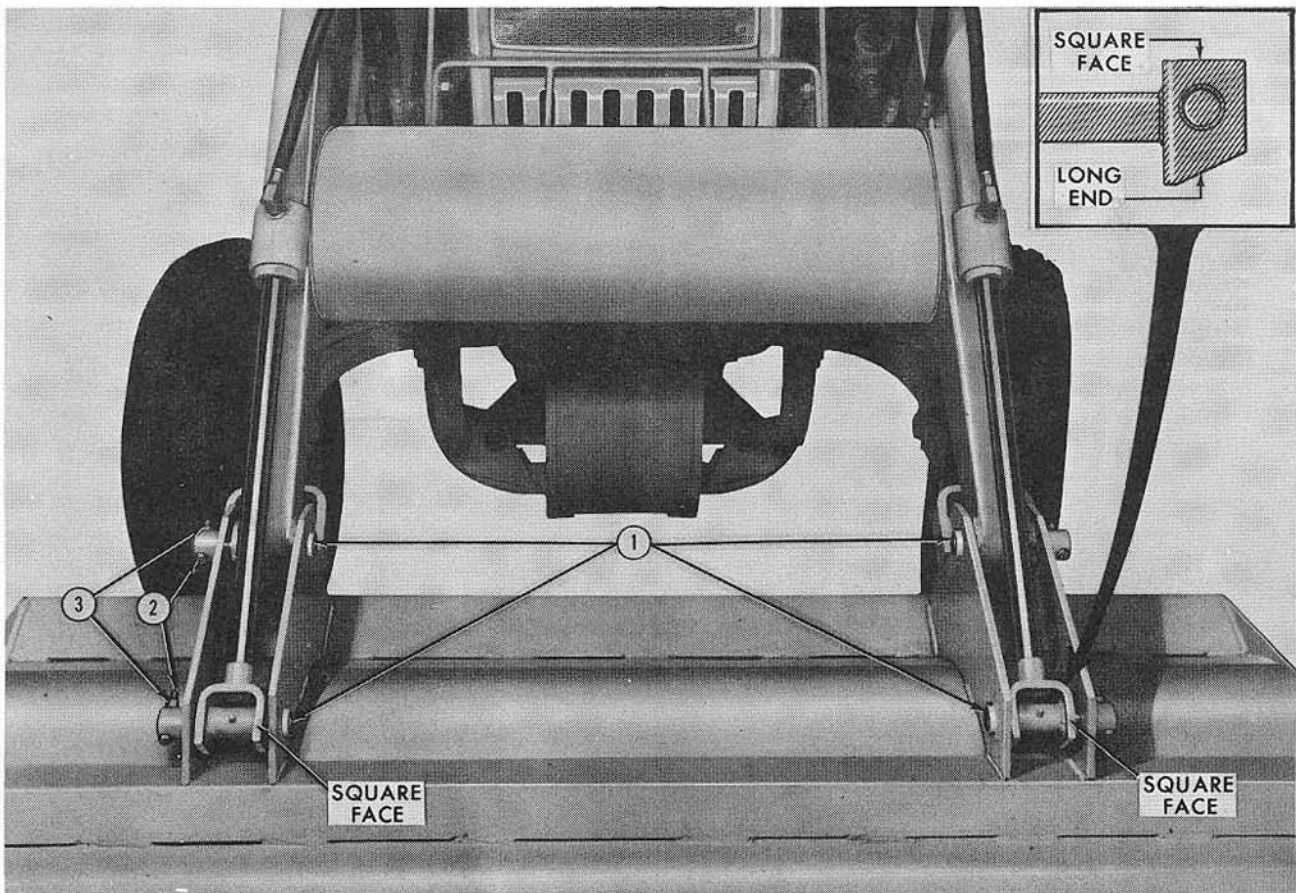

Figure 3
2. Position the bucket cylinder rods so the square face of the rod end is in the up position, as shown in Figure 3. The longer portion of the cylinder rod end is a bucket stop when the bucket cylinder is retracted.
3. Extend the bucket cylinder rods, as required, to allow attachment of the bucket as shown in Figure 3. Attach the bucket using four 1" x 6" pins, as shown at (1). Retain the pins in position by using four hardened bolts, one through each hole in the bucket bushing and the hole in the pin, as shown at (2). Secure the retaining bolts, using four lock nuts, as illustrated at (3).